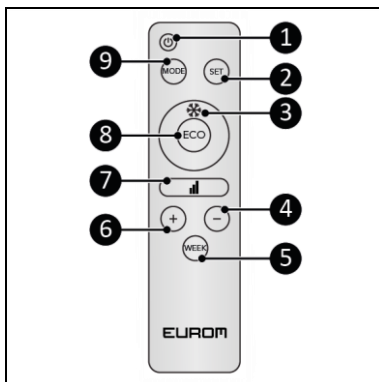

Figur 5
Statusindikation (figur 5, pos. 1):
Temperaturindikation (figur 5, pos. 2):
Tidsindikation (figur 5, pos. 3):
Dagsindikation (figur 5, pos. 4):
Wi-Fi-indikation (figur 5, pos. 5):